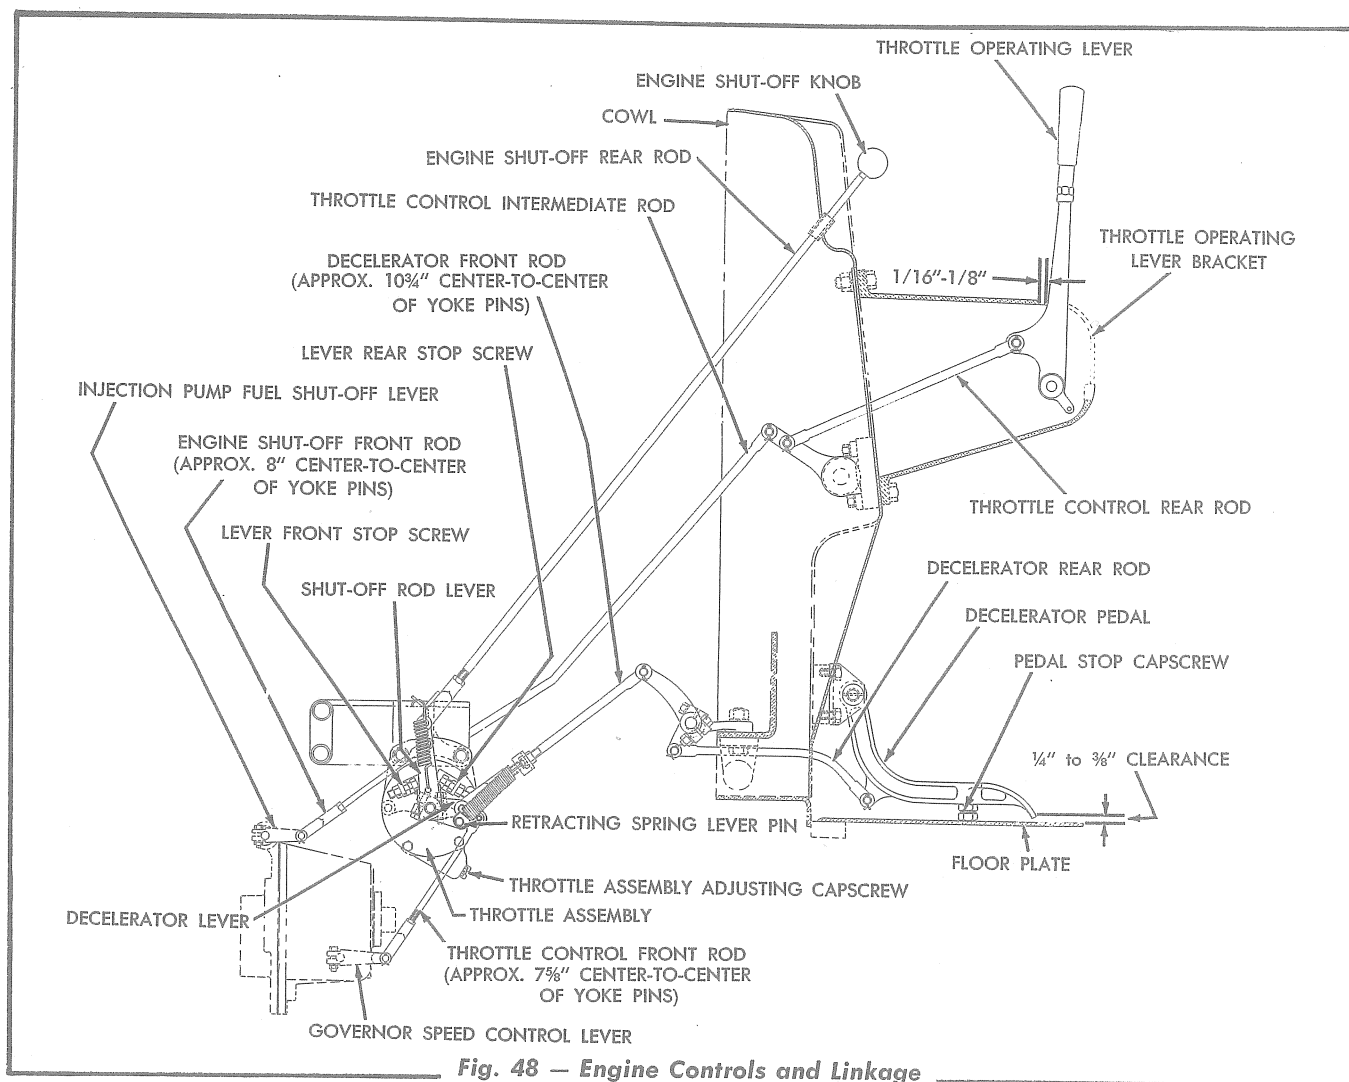

Fig. 48 — Engine Controls and Linkage
On tractors Serial No. 4001 and above, a decelerator pedal (Fig. 48) located to the right of the right brake pedal, is provided on tractors with a torque converter, for use in conjunction with the throttle operating lever to regulate the engine speed. *NOTE: The decelerator is available for tractors without a torque converter, as special equipment.* With the engine operating at full speed (throttle operating lever all the way back), depressing the decelerator pedal with the foot slows the engine to the desired speed. Releasing of the decelerator pedal allows the engine speed to increase to the speed where the throttle operating lever is positioned. The pedal should be used for decelerating when shifting gears, or where minute control of the engine speed is required.
- a. Remove the yoke pin connecting the throttle control front rod (Fig. 48) to the governor speed control lever. Push the throttle operating lever forward as far as it will go (low idle position). Check and make certain that the throttle control rod lever located on the shaft of the throttle assembly, is contacting the throttle control rod lever front stop screw, located on the inner side (engine side) of the throttle assembly.
- b. With the throttle control rod lever contacting the front stop screw of the throttle assembly, check the position of the throttle operating lever (hand lever). Adjust the throttle control intermediate rod as necessary so that there is $\frac{1}{16}$ " to $\frac{1}{8}$ " clearance between the front of the throttle operating lever and the lever bracket (as shown in Fig. 48) when the throttle control rod lever is against the front stop screw of the throttle assembly.
- d. Pull the throttle operating lever all the way back as far as it will go. Push the throttle operating lever forward until the inner end of the retracting spring lever pin (Fig. 48) just contacts the front of the decelerator lever, then adjust the throttle control rod lever rear stop screw (Fig. 48) so that it just contacts the throttle control lever. Tighten the jam nut on the rear stop screw.
- (1) Move the throttle operating lever to its low idle position (all the way forward).
- (2) Measure the clearance between the end of the decelerator pedal and the top of the floor plate; the clearance should be $\frac{1}{4}$ " to $\frac{3}{8}$ " (as shown in Fig. 48) when the pedal stop capscrew contacts the floor plate.
- (3) If the clearance is not $\frac{1}{4}$ " to $\frac{3}{8}$ ", adjust the length of the decelerator front rod as necessary to obtain the proper clearance, and adjust the pedal stop capscrew to contact the floor plate.